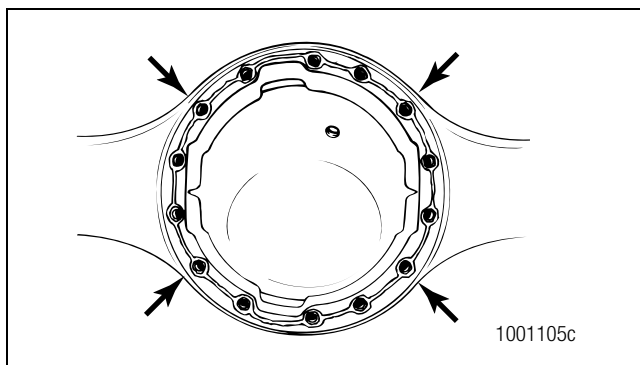

Figure 5.2
7. Install nuts and washers or capscrews and washers, if equipped, into the four corner locations around the carrier and axle housing. Hand-tighten the fasteners. Figure 5.2.
8. Carefully push the carrier into position. Tighten the four fasteners two or three turns each in a pattern opposite each other. Figure 5.2.